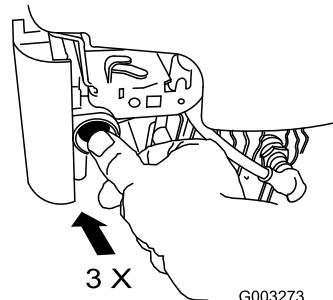

Figure 23
1. Firmly push in the primer 3 times with your thumb, holding the primer in for a second before releasing it each time (Figure 23).